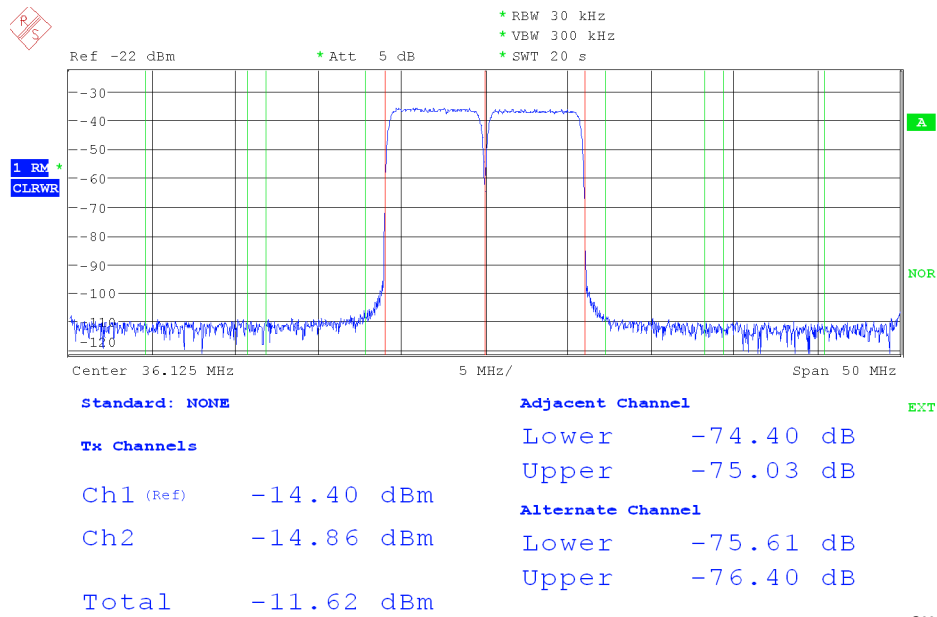

Figure 82. Two QAM256 Carriers With 36-MHz IF
The DAC5687 output for a two-QAM256 carrier signal at 33-MHz and 39-MHz IF with the signal and system properties listed in Table 19 is shown in Figure 82. The low DAC5687 noise floor provides better than 75 dBc (equal bandwidth normalized to one QAM256 power) at > 6-MHz offset.
**Table 19. Signal and System Properties for Complex IF System Example in Figure 82**